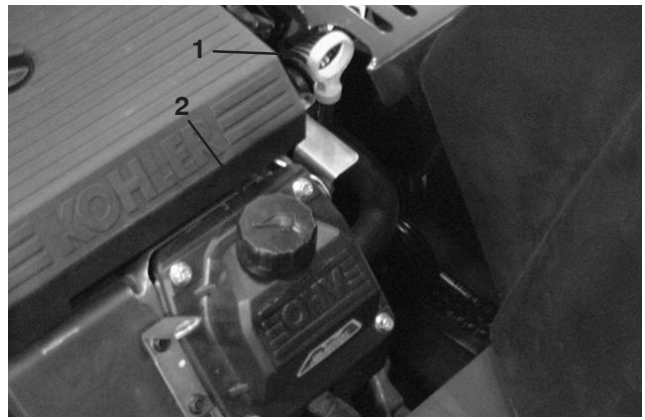

Figure 11
2. Clean around the oil dipstick (Fig. 11) so dirt cannot fall into the filler hole and damage the engine.